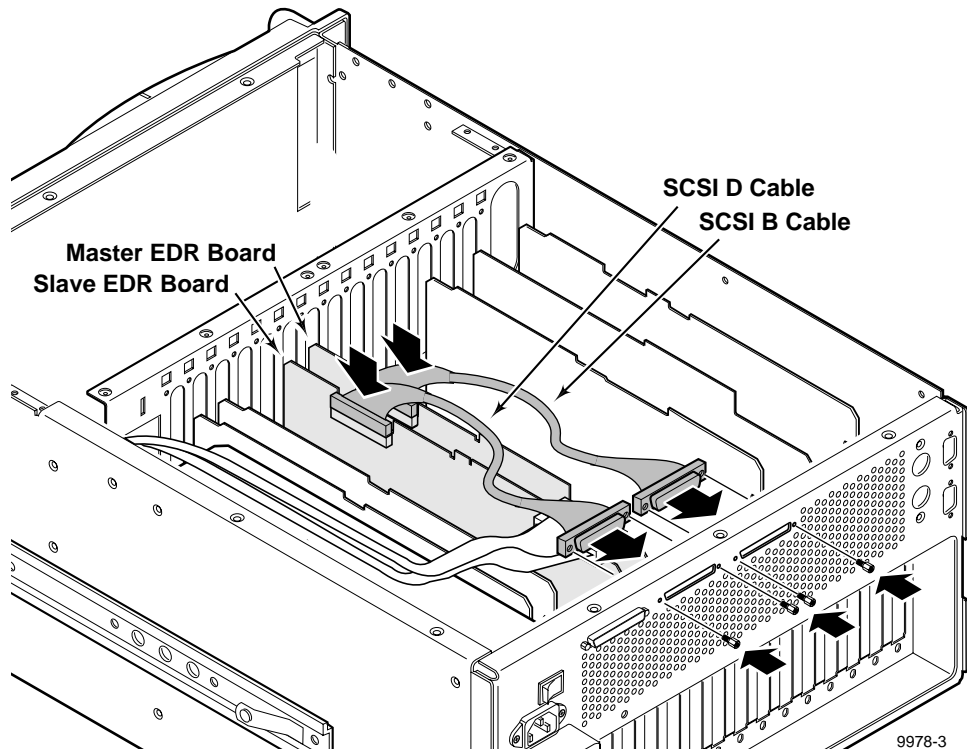

Figure 11. Connecting the SCSI B and SCSI D Cables
3. Connect the SCSI B cable from the Master EDR board to the SCSI B slot on the back panel of the Profile chassis, and the SCSI D cable from the Slave EDR board to the SCSI D slot on the back panel, as illustrated in Figure 11.